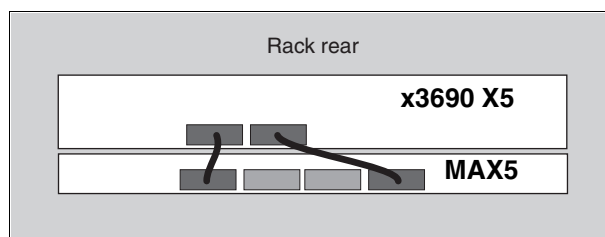

Figure 7-10 QPI cable installation
- ▶ There are only two QPI cables connecting the two QPI ports of the x3690 X5 to two of the four QPI ports on the MAX5. Figure 7-10 shows how the cables must be connected between the QPI ports of the two units.